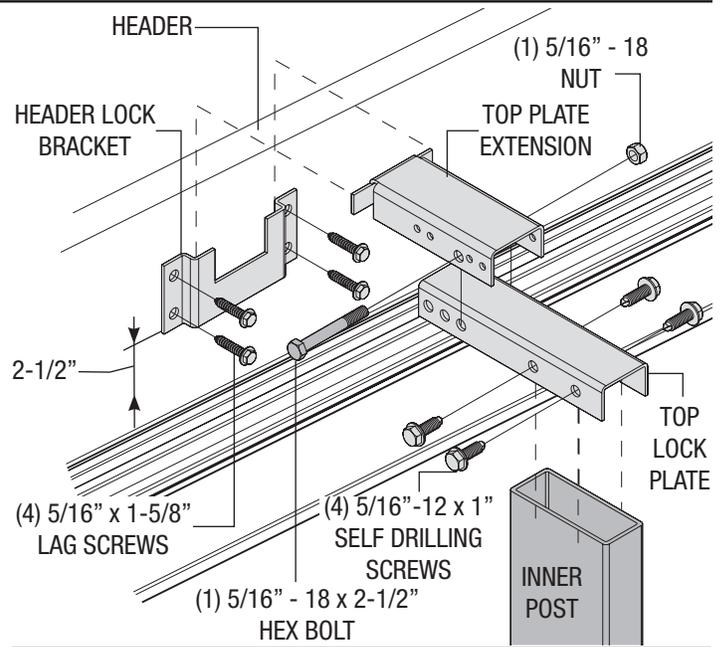

FIGURE 1
Attach the header lock bracket to the header using the (4) 5/16" x 1-5/8" lag screws provided, as shown in **FIGURE 1**. The header lock bracket should be in line with the intermediate hinges where the post is to be installed and located such that the bottom of the bracket is approximately 2-1/2" above the top of the door.
Align the large diameter hole in the top plate extension with the second hole in the top lock plate, as shown in **FIGURE 1** and bolt together with (1) 5/16" - 18 x 2-1/2" hex bolt and (1) 5/16" - 18 nut. Align the assembly over the top of the post assembly and secure with (4) 5/16" - 12 x 1" self drilling screws through the holes provided in the top lock plate. Slide the opposite end of the inner post into one end of the outer post.